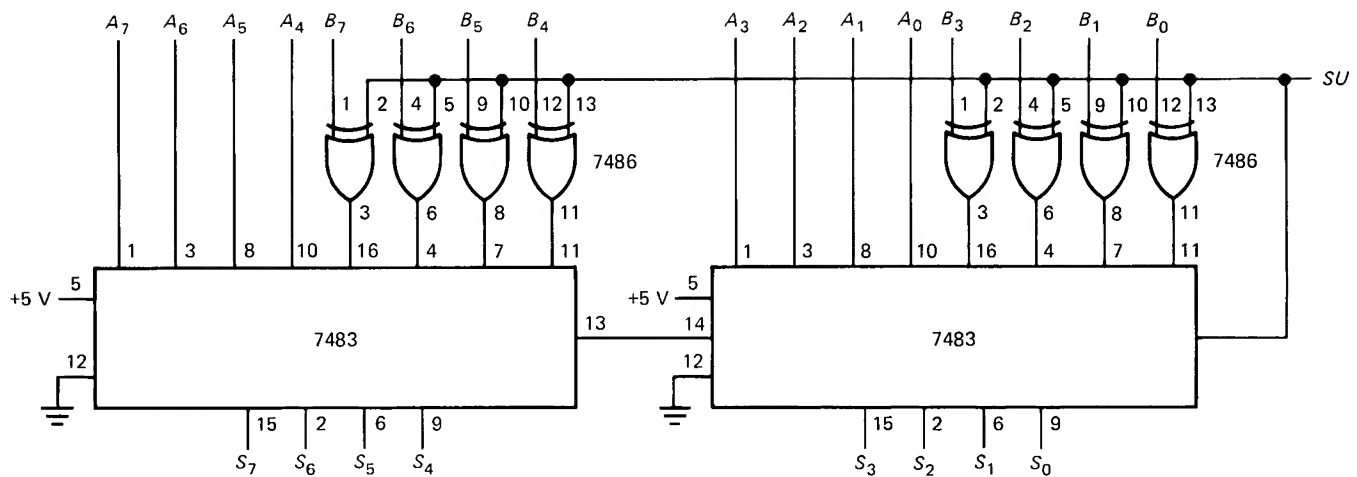

Fig. 6-9
- 6-11.** Suppose the inputs to Fig. 6-9 are $A = 3CH$ and $B = 5FH$. What is the output for a low SUB ? A
- 6-12.** In Fig. 6-9 which of the following inputs cause an overflow when SUB is low?